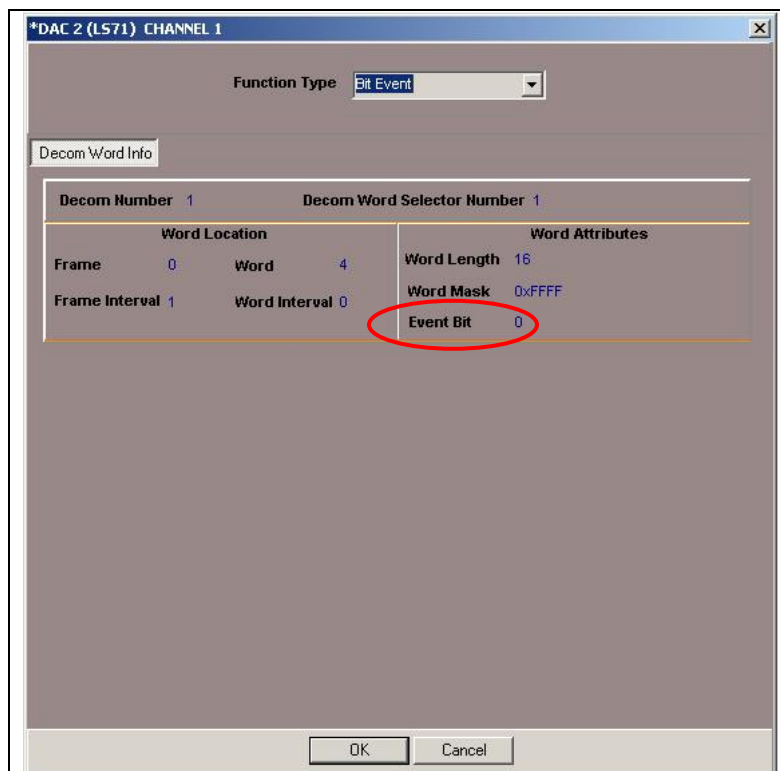

Figure 3-14 Bit Event Dialog Box
The Bit Event dialog box is shown in Figure 3-14 below. When the Bit Event function type is selected, the Event Bit field is added to the Word Attributes area as indicated below via the red oval. The Bit Event function is a simple method to deflect the channel to $\frac{3}{4}$ scale if a specific bit is set to TRUE (1). To select the bit number that will trigger the event, right click in the Word Attributes area and select Event Bit from the list. Enter the bit position in the resulting dialog box and click OK.